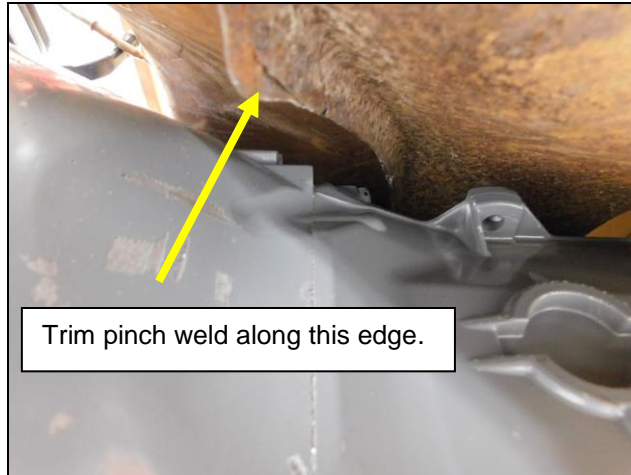

Figure 1
1. Trim approximately 1/4" from the bottom edge of the firewall pinch weld as shown in **Figure 1**. Take care to not trim into the spot welds. If additional clearance is required for the bell housing, it will require rolling the pinch weld.
NOTE: The transmission mount will be installed between the adapter plate and the **WB130033** transmission crossmember. **Fig.1**